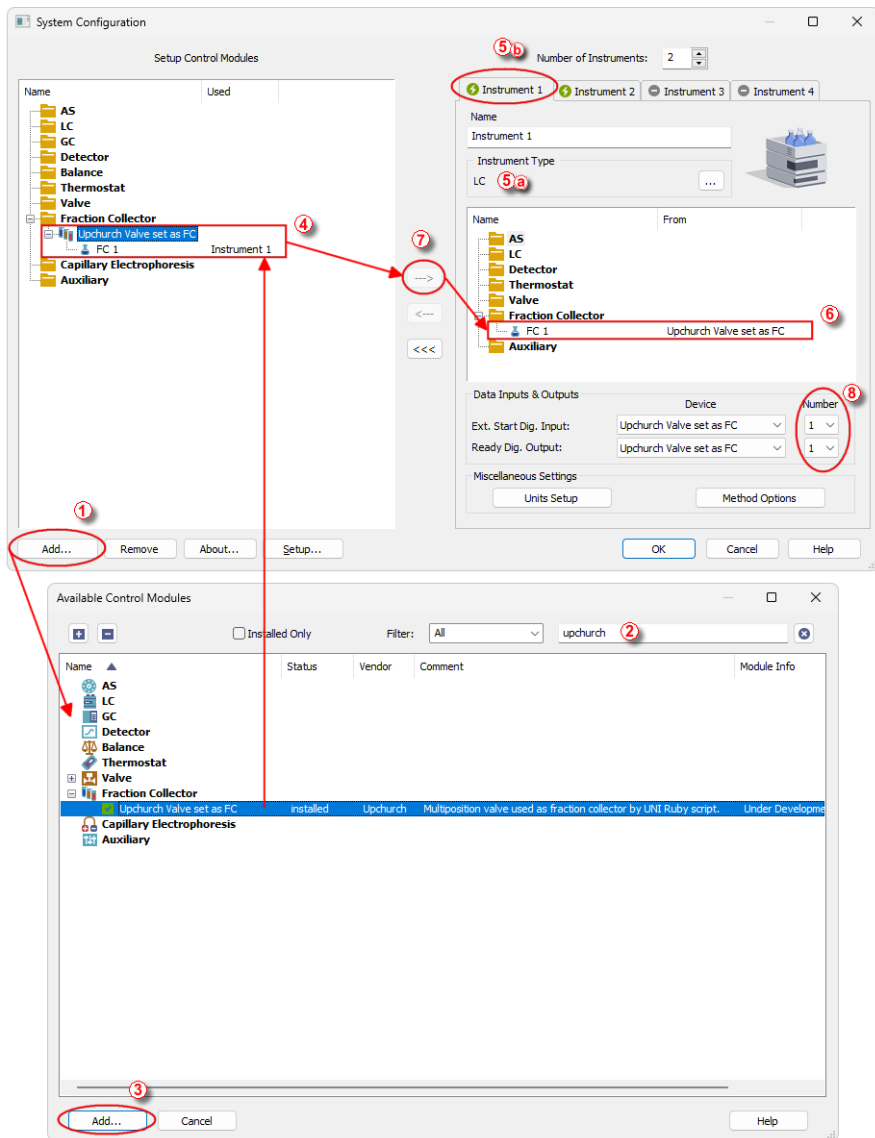

Fig. 3: How to add FC by Upchurch Valve
- Press the **Add** button (① on Fig. 3 on pg. 4.) to invoke the *Available Control Modules* dialog.
- You can specify the search filter (②) to simplify the finding of the driver.
- Select the correct item and press the **Add** (③ on Fig. 3 on pg. 4.) button. Each device with already created UNI profile should have its own item named accordingly in the *Available Control Modules* dialog.